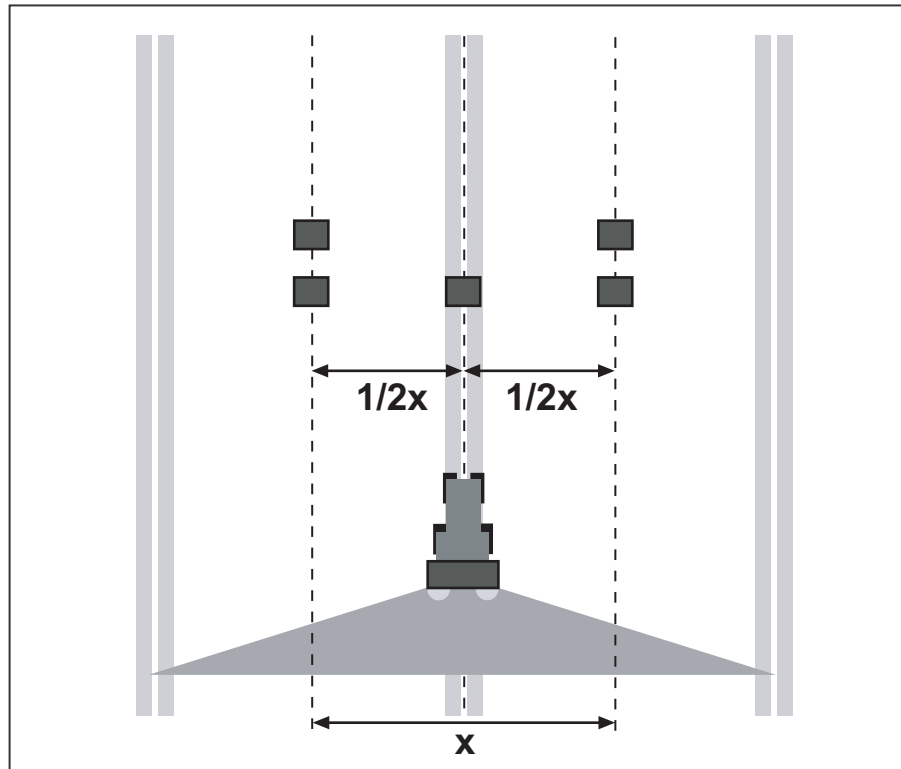

Figure 7.23: Layout for one passage
- Place two collecting vessels one after another at a distance of **1 m** in the overlap zones (between the tramlines) and one collecting vessel in the track (according to figure 7.23).